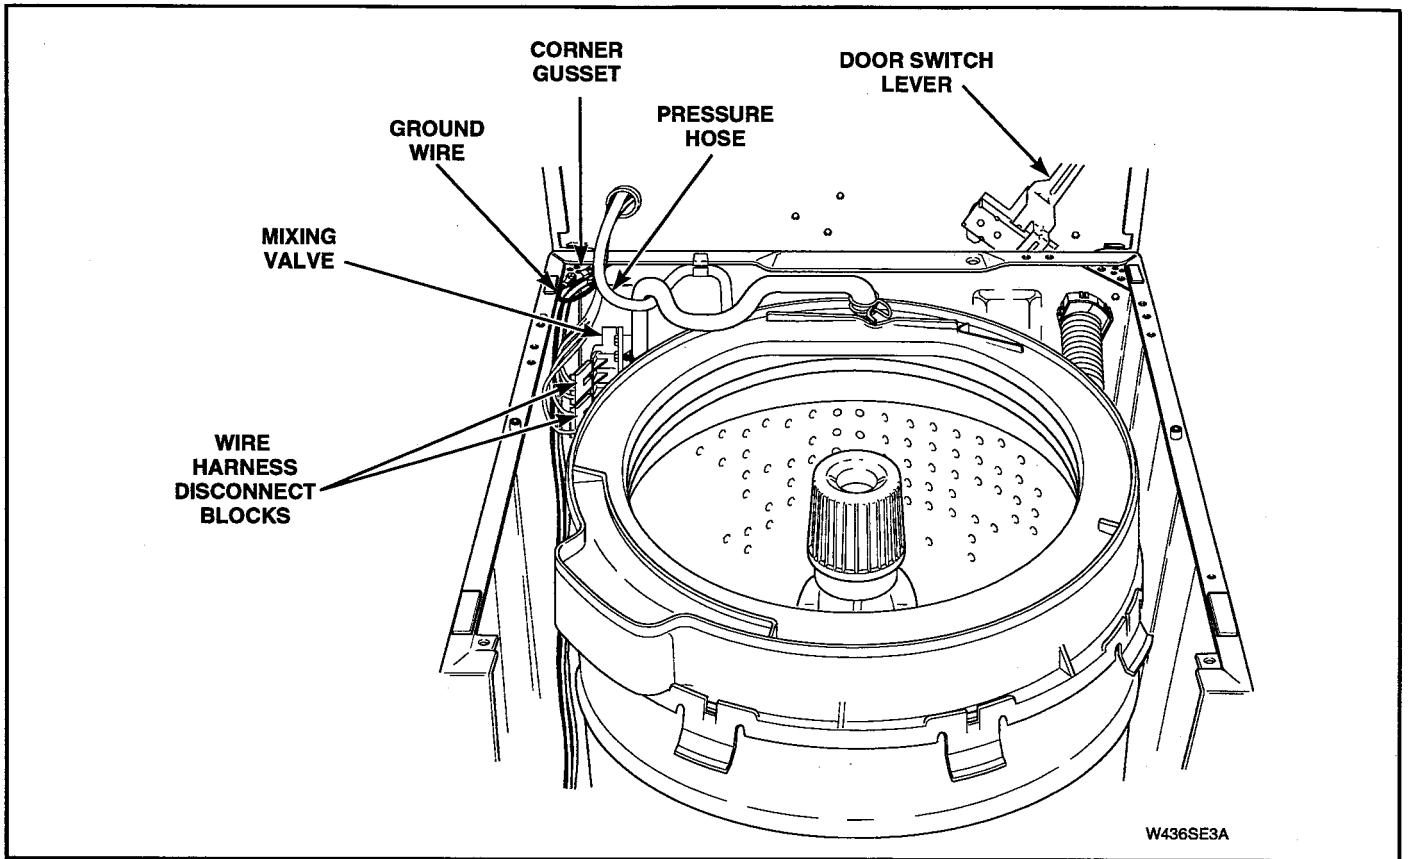

Figure 5-26
- Pull top forward far enough to permit disconnecting ground wires from top left rear corner gusset of washer cabinet. See Figure 5-26.
- Disconnect wires from mixing valve solenoids at quick disconnect blocks. See Figure 5-26.